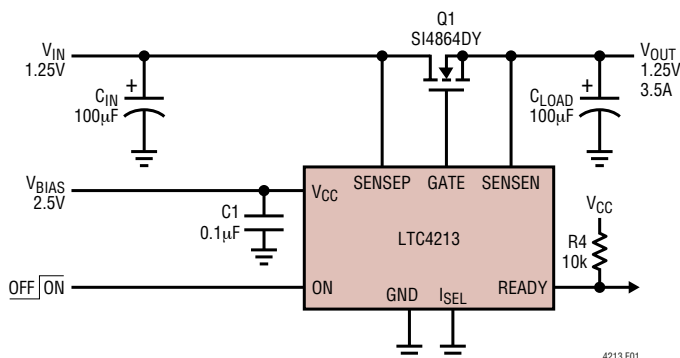
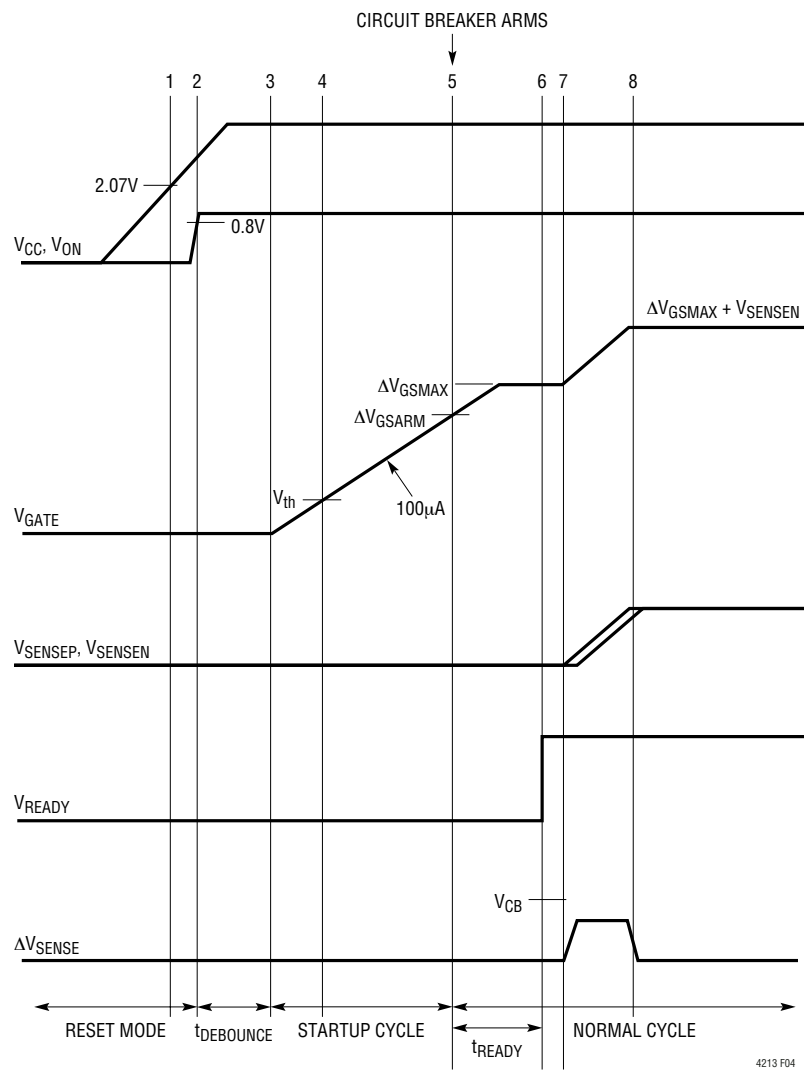
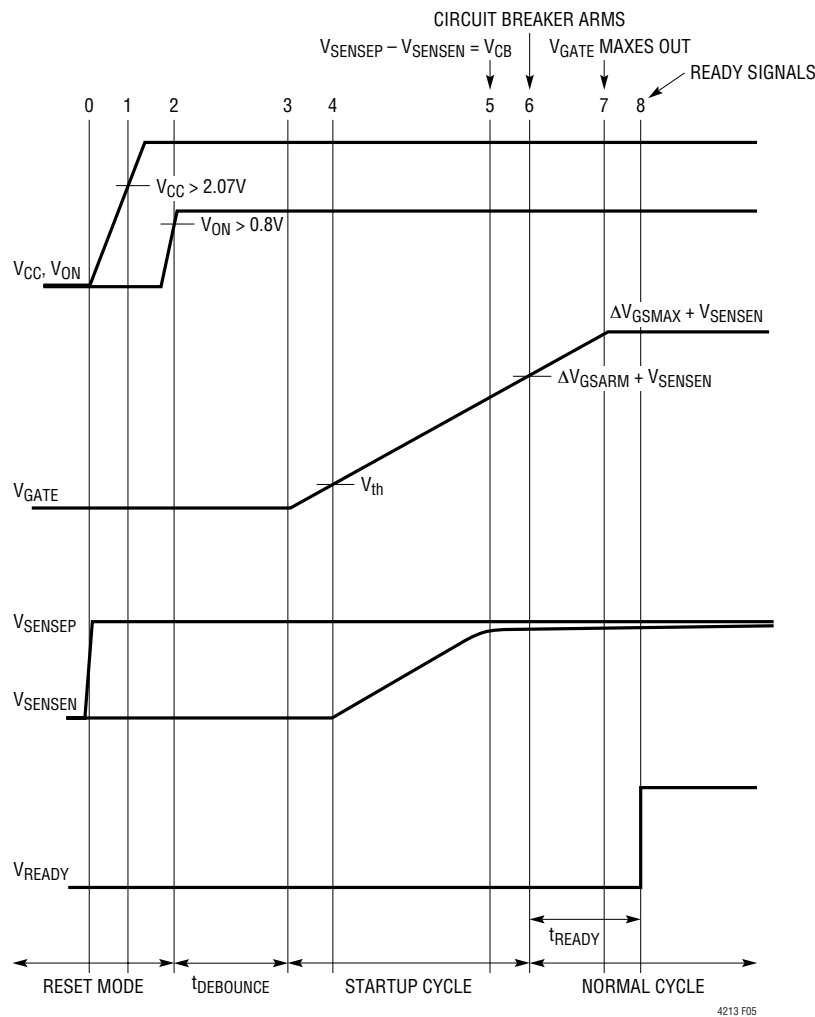

Figure 1. LTC4213 Electronic Circuit Breaker Application
Figure 4. Load Supply Power-Up After Circuit Breaker Armed
Figure 5. Load Supply Power-Up Before  $V_{CC}$
Figure 1 shows an electronic circuit breaker (ECB) application. An external auxiliary supply biases the  $V_{CC}$  pin and the internal circuitry. A  $V_{IN}$  load supply powers the load via an external MOSFET. The SENSEP and SENSEN pins
Figure 4 shows a normal power-up sequence for the circuit in Figure 1 where the  $V_{\text{IN}}$  load supply power-up after circuit breaker is armed.  $V_{\text{CC}}$  is first powered up by an auxiliary bias supply.  $V_{\text{CC}}$  rises above 2.07V at time point 1.  $V_{\text{ON}}$  exceeds 0.8V at time point 2. After a 60 $\mu\text{s}$  debounce delay, the GATE pin starts ramping up at time point 3. The external MOSFET starts conducting at time point 4. At time point 5,  $V_{\text{GATE}}$  exceed  $\Delta V_{\text{GS ARM}}$  and the circuit breaker is armed. After 50 $\mu\text{s}$  ( $t_{\text{READY}}$  delay), READY pulls high by an external resistor at time point 6. READY signals the  $V_{\text{IN}}$  load supply module to start its ramp. The load supply begins soft-start ramp at time point 7. The load supply ramp rate must be slow to prevent circuit breaker tripping as in equation (8).
Referring back to Figure 1, the  $V_{IN}$  load supply can also be powered up before  $V_{CC}$ . Figure 5 shows the timing diagram with the  $V_{IN}$  load supply active initially. An internal circuit ensures that the GATE pin is held low. At time point 1,  $V_{CC}$  clears UVLO and at time point 2,  $ON$  clears 0.8V. 60 $\mu$ s later at time point 3, the GATE is ramped up with 100 $\mu$ A. At time point 4, GATE reaches the external MOSFET threshold  $V_{TH}$  and  $V_{OUT}$  starts to ramp up. At time point 5,  $V_{SENSE}$  is near its peak. At time point 6, the circuit breaker is armed and the circuit breaker can trip if  $\Delta V_{SENSE} > V_{CB}$ .
There is no current limit monitoring during output charging for the figure 5 power-up sequence where the load supply is powered up before  $V_{CC}$ . This is because the GATE voltage is below  $\Delta V_{GSARM}$  and the MOSFET may not reach the specified  $R_{DS(ON)}$ . The  $V_{IN}$  load supply should have sufficient capability to handle the inrush as the output charges up. For proper startup, the final load at time